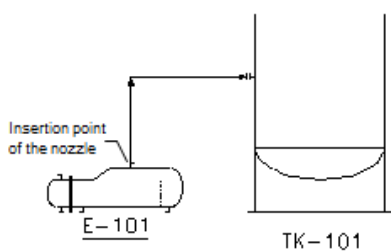

Figure 2-47 Insertion point of the nozzle, and line connecting the vessel and the heat exchanger
3. Specify the insertion point, refer to Figure 2-47, and then specify the rotational angle as 90-degrees.
6. Move the cursor horizontally toward right and specify the endpoint on the vessel; the line connecting the vessel and the heat exchanger is created, refer to Figure 2-47.